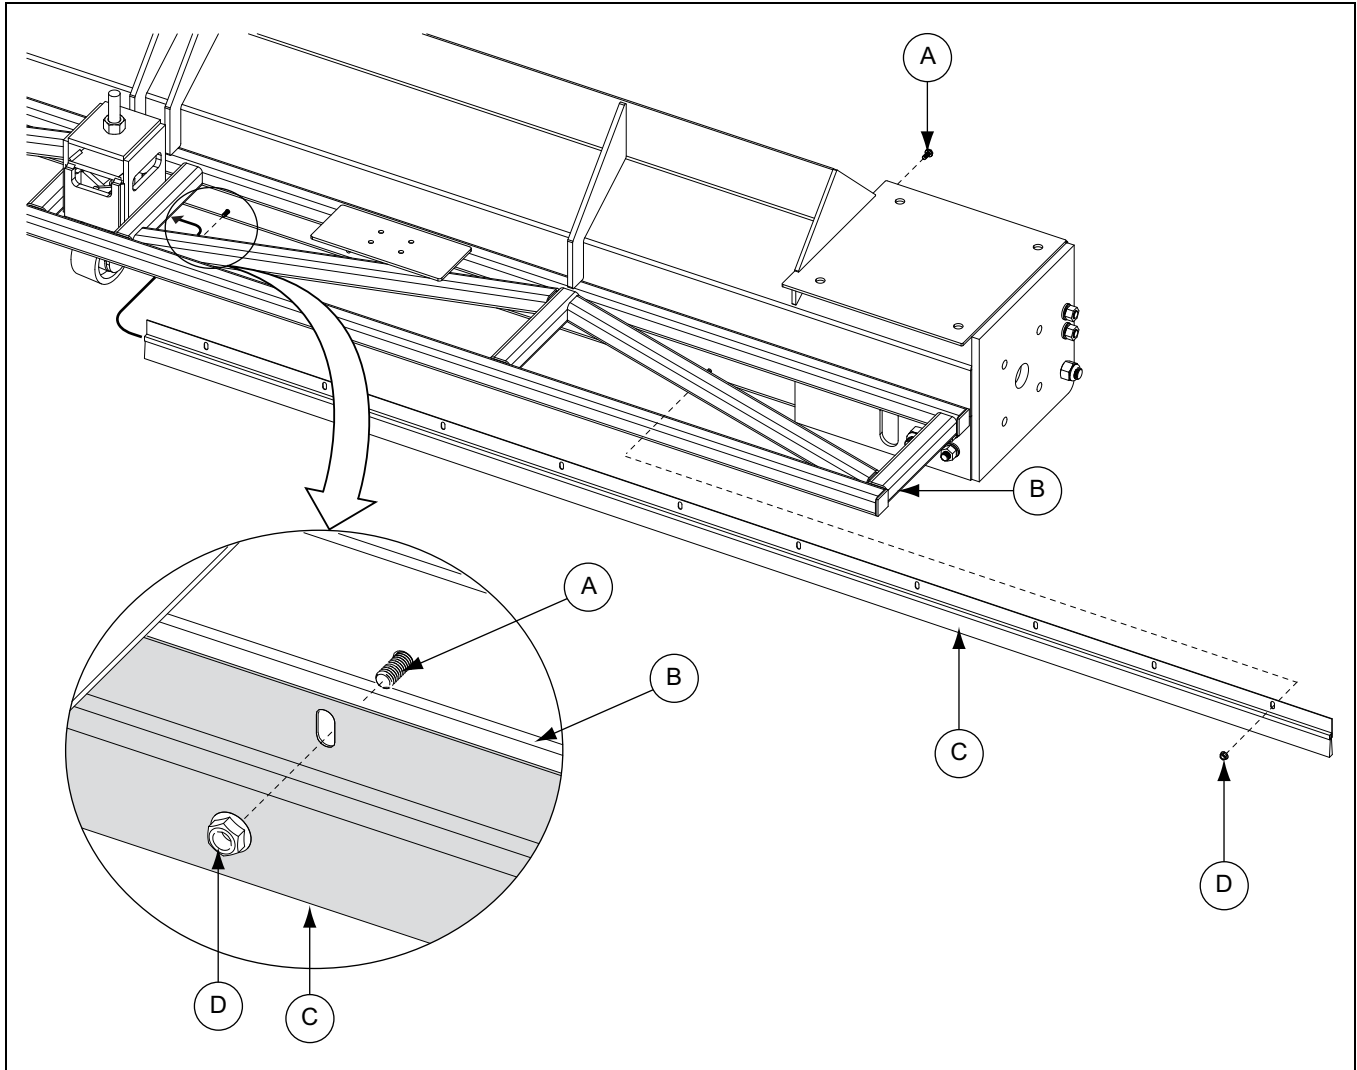

Figure 7K
1. Slide brush assemblies (C) along back of sweep shield (B). Align holes in brush assembly with holes in shield using a drift punch. (See Figure 7K.)